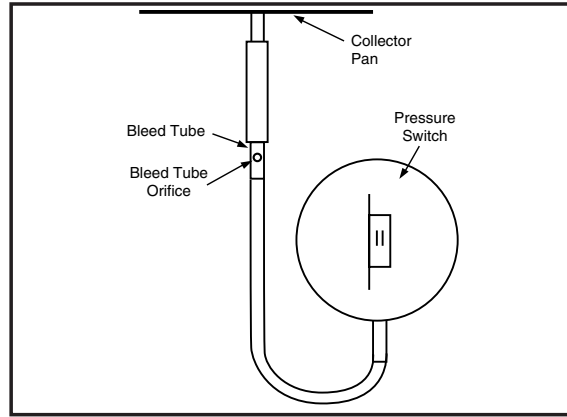

Figure 17. *TK Bleed Tube Installation
2. Remove the rubber tubing from the pressure switch sensor tube and the collector pan sensor tube. Cut the tubing approximately 3" from one end. Select the appropriate dilution cover plate as noted with vent kit #903196. Insert the bleed tube into the tubing. **Do not cover the hole in the bleed tube.** Place the tubing assembly back on the pressure switch sensor tube and collector pan sensor tube. (See Figure 17.)